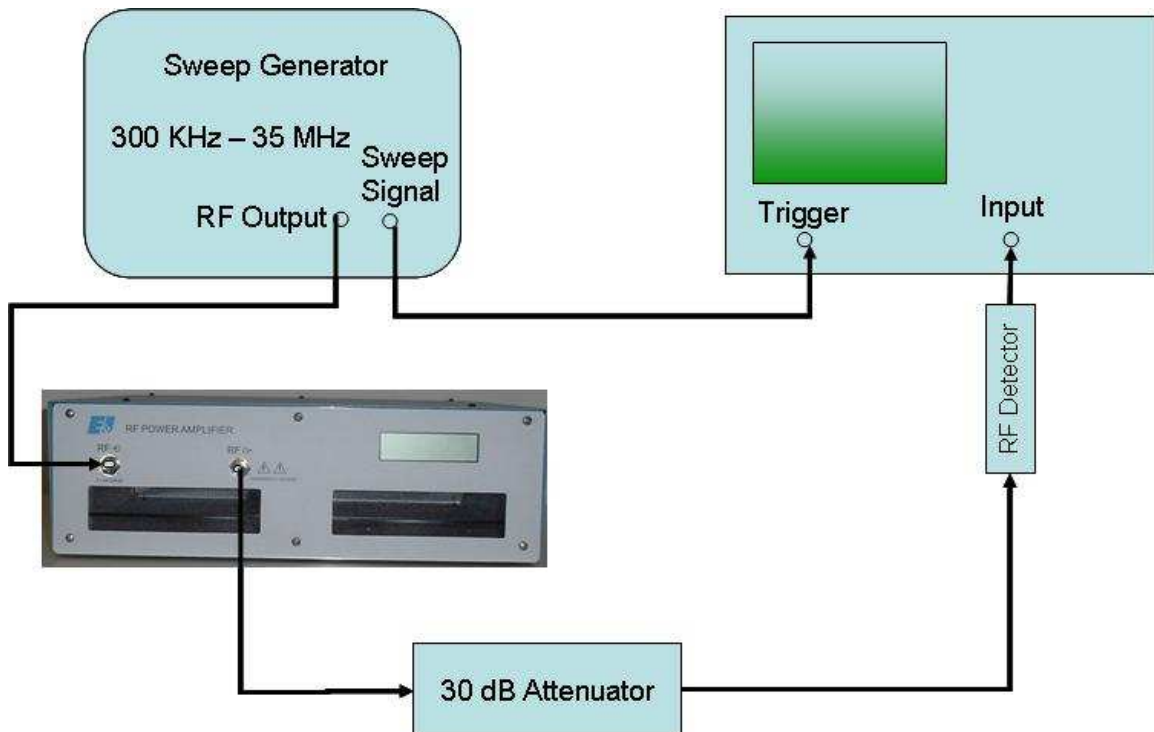

Figure 4-1. Gain Measurement
##### 2. Connect the equipment as shown in Figure 4-1, then proceed as follows:
- g) Reconnect the A150 into the test set-up of Figure 4-1.